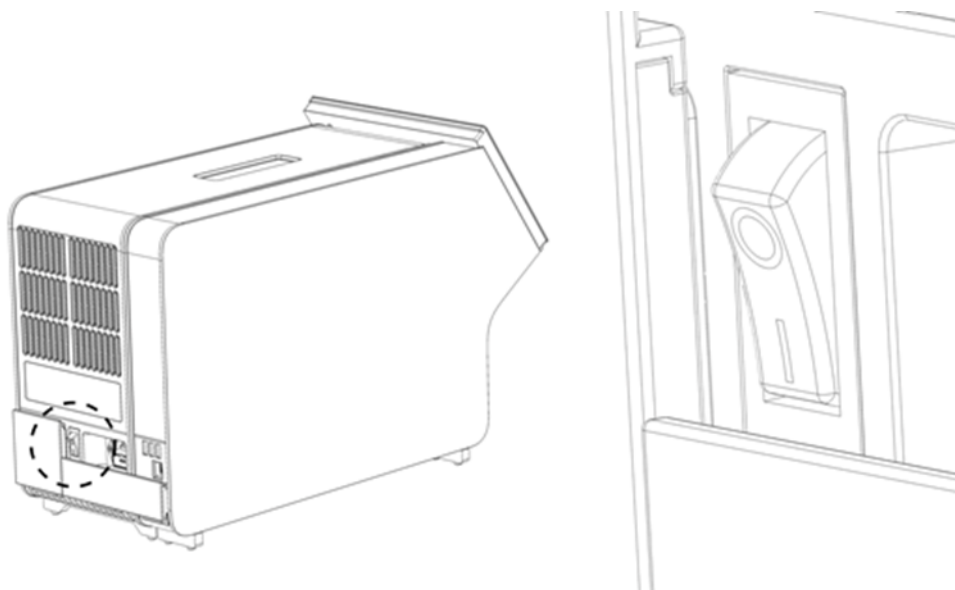

Figure 11. Locating the power switch and setting it to the “I” position.
9. Power ON the instrument by pressing the power switch on the back of the Analytical Module to the “I” position (Figure 11). Confirm that the status indicators of the Analytical and Operational Modules are blue.